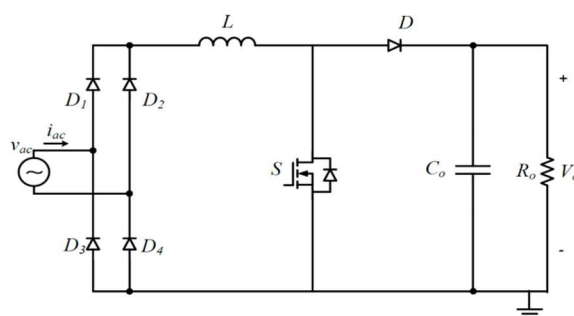

Figure 1: Traditional PFC design
PFC control scheme is widely adopted for AC-DC power conversion applications. The main advantage of adding a PFC stage in an AC-DC power converter is to achieve better efficiency, low total harmonic distortion (THD) and better power factor (PF). Figure 1 shows the traditional PFC topology that can give 97.5% efficiency (which helps to achieve 80 Plus Platinum level efficiency). Disadvantages of using traditional PFC design include high conduction losses in the fixed diode bridge, low power density, more components and high cost.